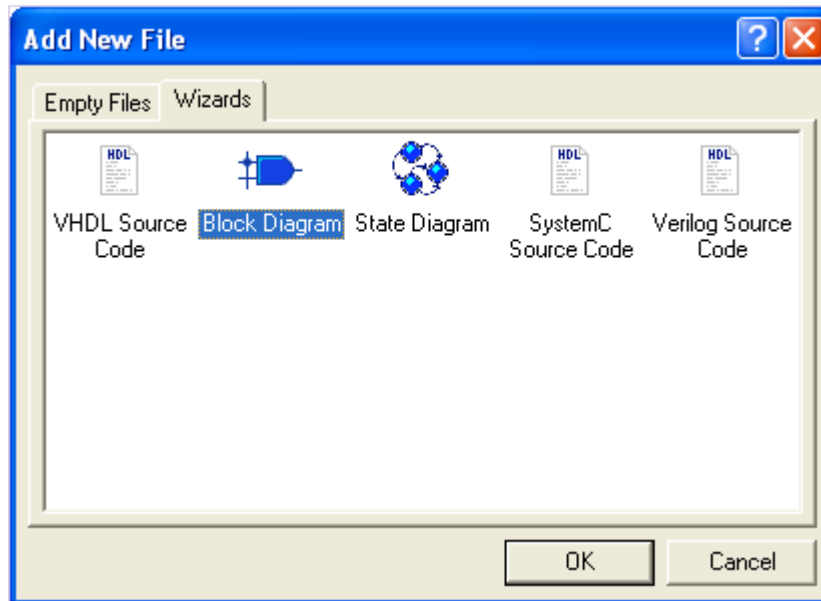

Figure 9
2. Click the Wizards tab in the Add New File window. Select the Block Diagram Wizard icon, and then click the OK button (Figure 9).